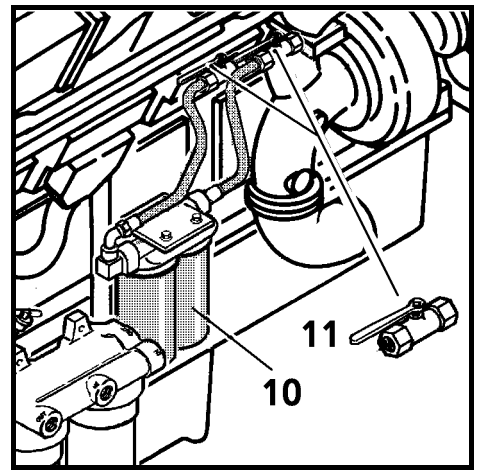

Fig. 10
Normally, changing the coolant filters (Fig. 10, pos. 10) regularly is sufficient to maintain the proper concentration.
The filters (Fig. 10) must be replaced at the intervals specified in the maintenance schedule: